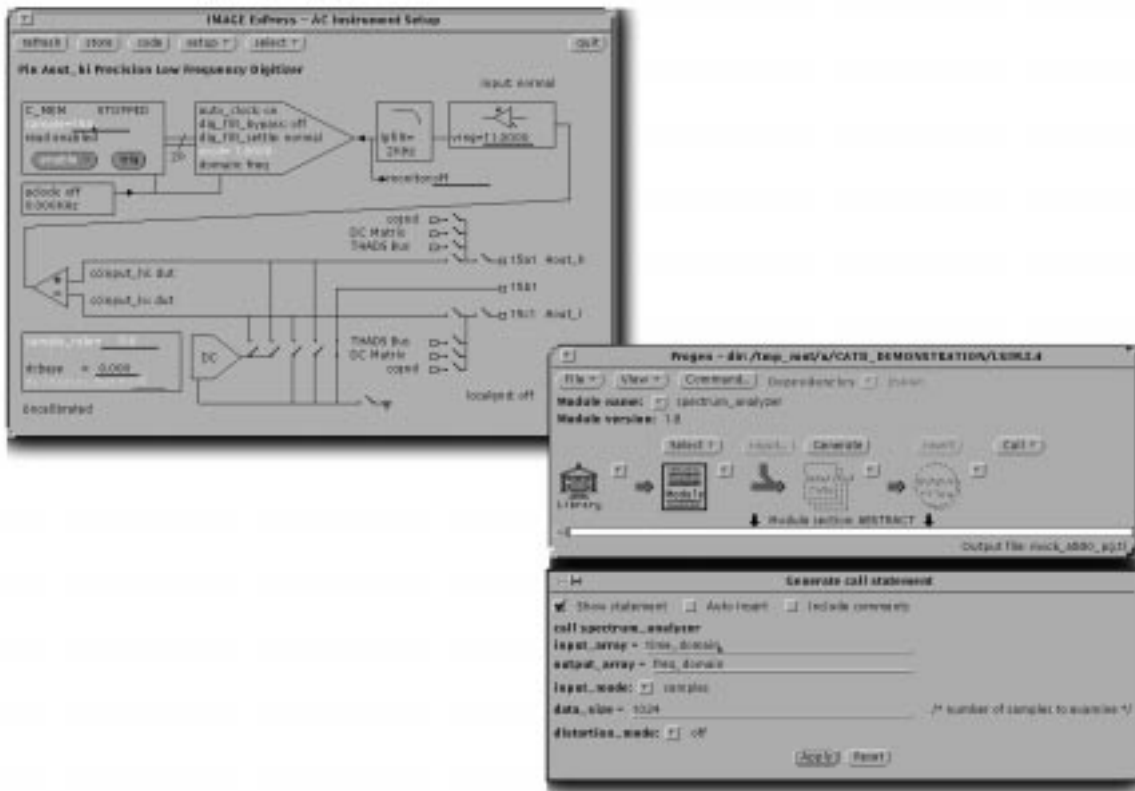

Figure 36
- IMAGE ExPress code-producing display (figure 36), which allows test instrument setup by simply “pointing and clicking” at a graphic display using a mouse. Then at the press of a button, the program code to produce the instrument setup can be generated and inserted into the test program.